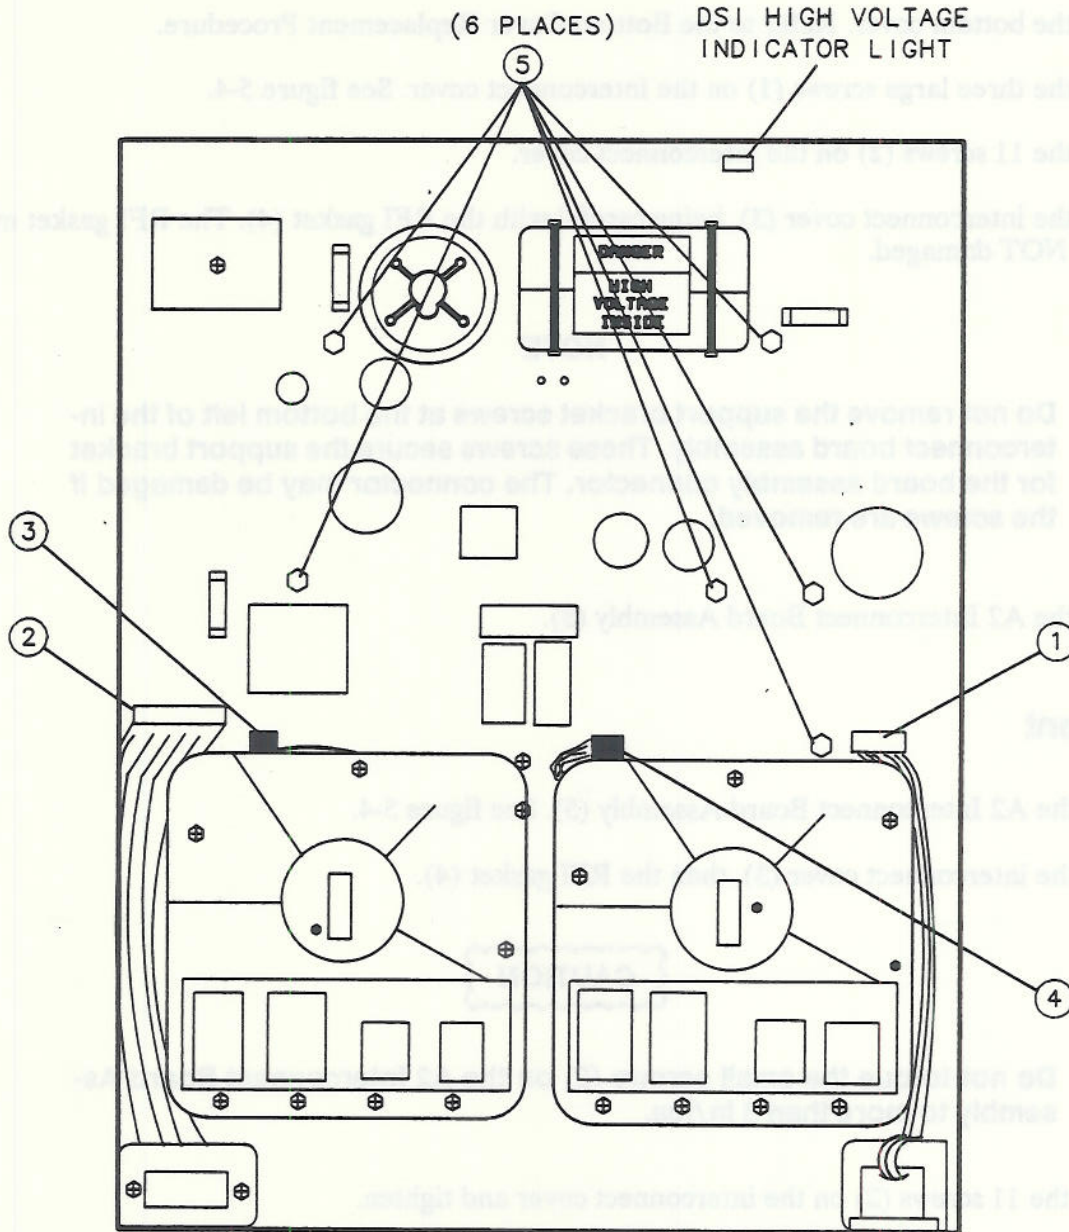

Figure 5-3. A1 Power Supply Replacement
2. Disconnect the following cables from the A1 Power Supply Board Assembly. See figure 5-3.
- W1 line input (1)
- W2 power supply output (2)
- W3 B1 Fan (3)
- W4 B2 Fan (4)
3. Remove the six stand-offs (5) used to attach the power supply to the bottom cover.
7. Replace the six stand-offs (5) used to attach the power supply to the bottom cover. See figure 5-3.
- 11. Replace all four bottom feet (1).